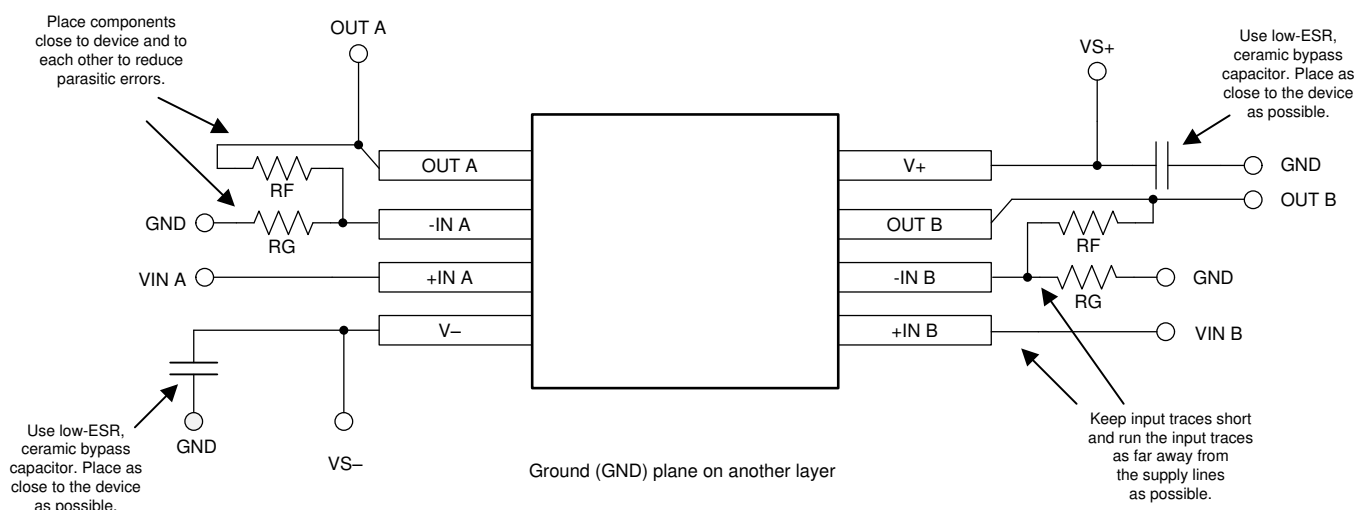

图 57. Layout Example
- Place the external components as close as possible to the device. As illustrated in Figure 57, keeping R_F and R_G close to the inverting input minimizes parasitic capacitance.